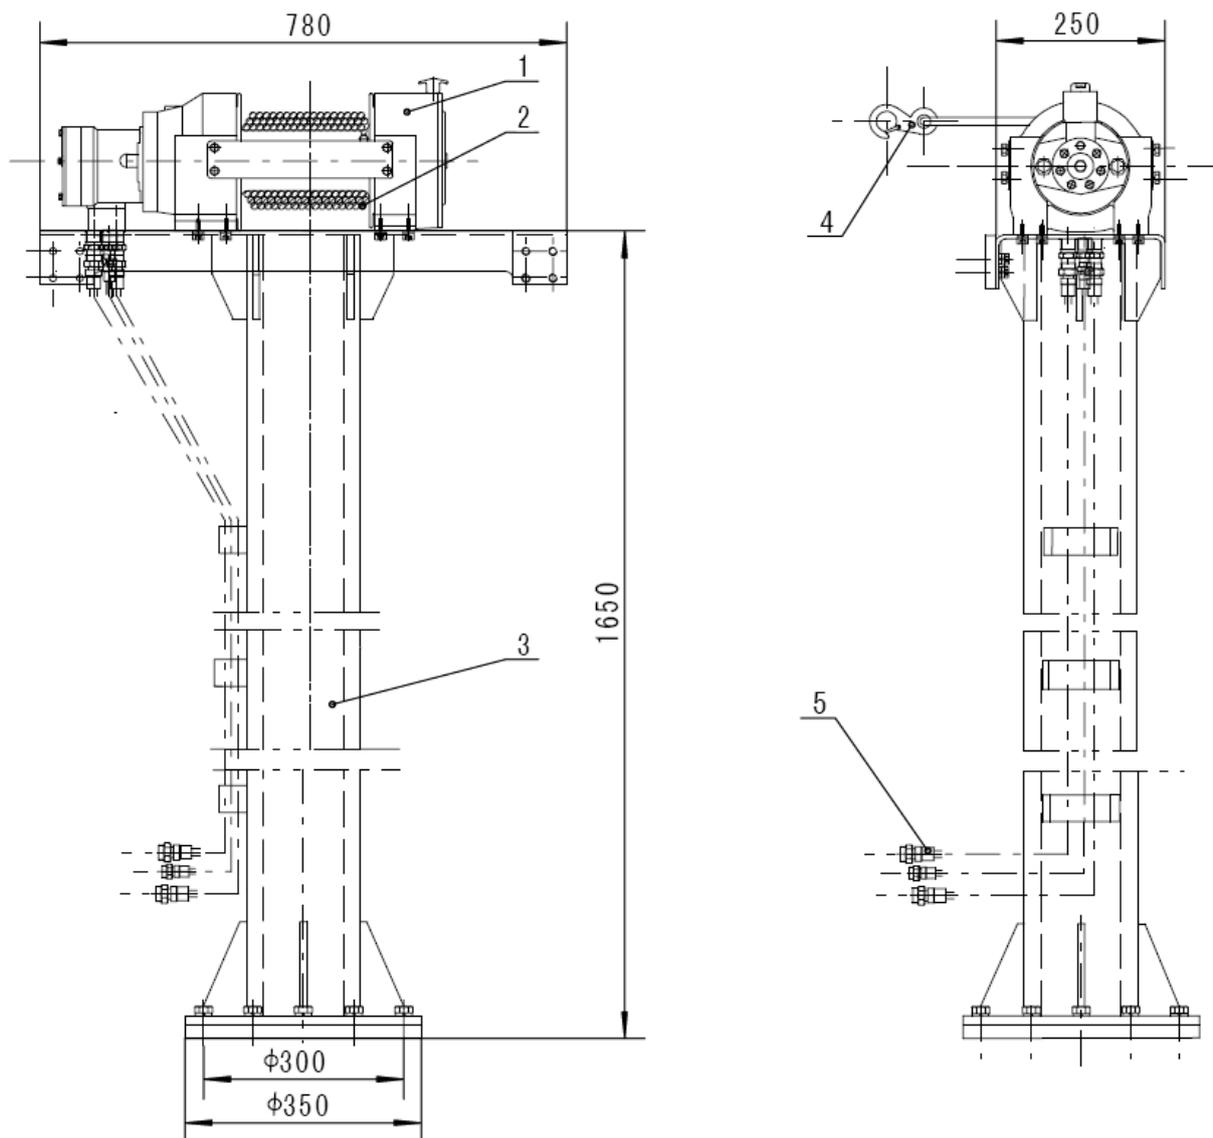

Fig 2-4-2 Wire Winch
2) The wire winch is an auxiliary function of the power unit, and serves as the towing pull rope for up and down the drill floor during installation or demounting of the swivel. As indicated in Fig 2-4-2, Steel Cable (2) is wound on the winding drum of the Wire Winch (1), the Cable Hook (4) is fixed on the moving end buckled on the lug on the top of bail of swivel, to achieve the traction function of swivel for up and down the drill floor, through wire winch retraction/extension of Steel Cable (2), to prevent bruise of swivel or other parts arising from instability during inclined pull.